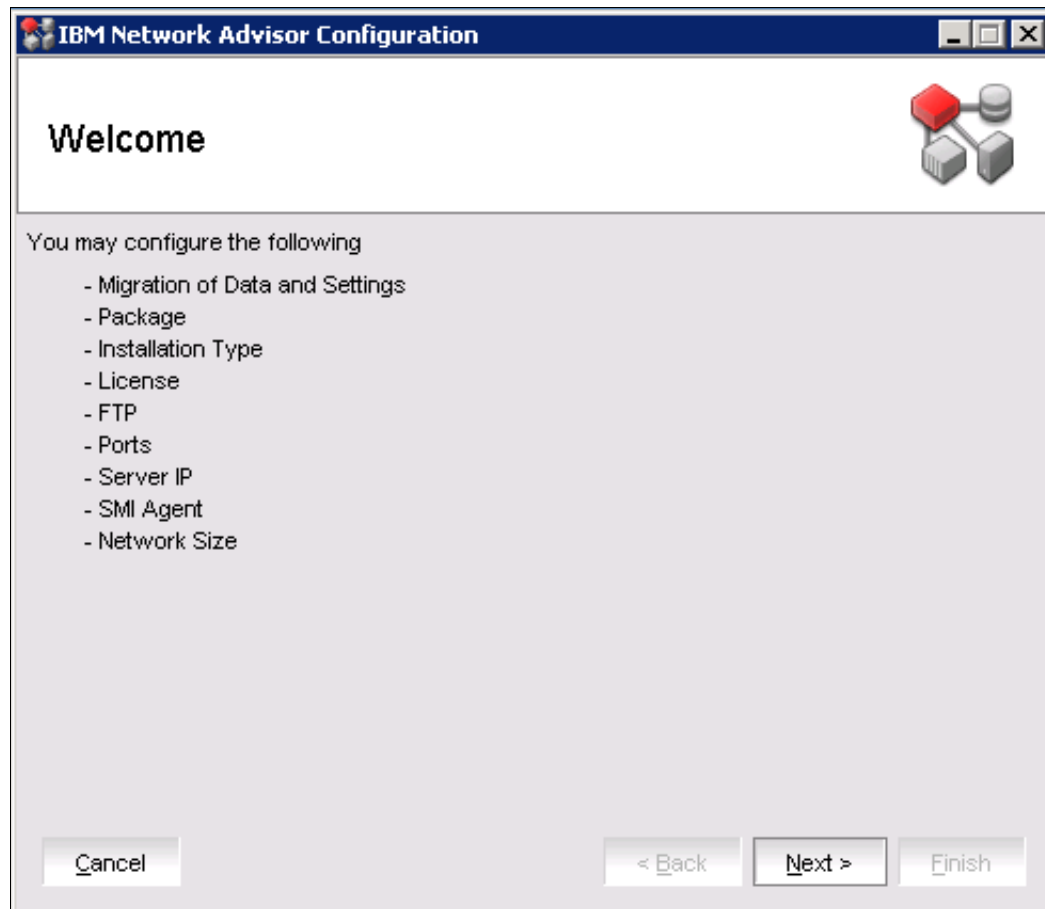

Figure 3-7 Welcome window
7. After you select the check box and click **Done**, the Welcome window opens and describes migrating data and settings, choosing the installation type, license, FTP server, ports, server IP SMI agent, and network size, as shown in Figure 3-7. Click **Next**.